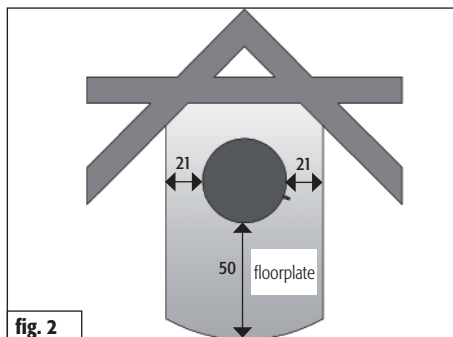

fig. 2
**The size of the floorplate must be larger than the base of the stove by at least 50 cm in front and at least 21 cm at the sides of the stove (Fig. 2).**